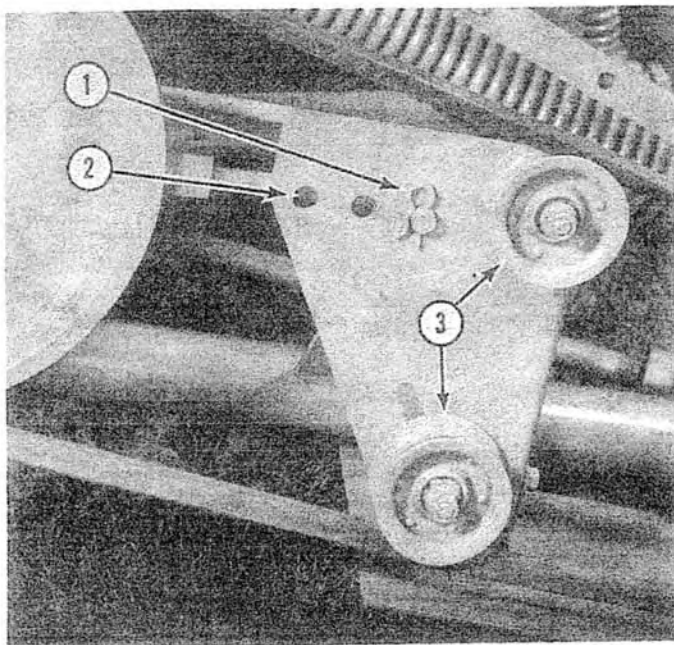

Fig. 34 - Belt Idler Pulleys
1. Move both idler pulleys (Fig. 34) so that they do not touch the belt.
There are three holes in the idler pulley mounting bracket for attaching the belt hook end of the turnbuckle. Any one of these holes may be used, but no more than 1-5/8 inches of thread on the belt hook should be exposed. The three holes are provided (Fig. 34) in order to reduce the distance of thread adjustment necessary. When the proper belt tension is achieved, secure the lock nut tightly up against the turnbuckle and insert the hair pin (No. 1, Fig. 34) in the hook end of the turnbuckle assembly.